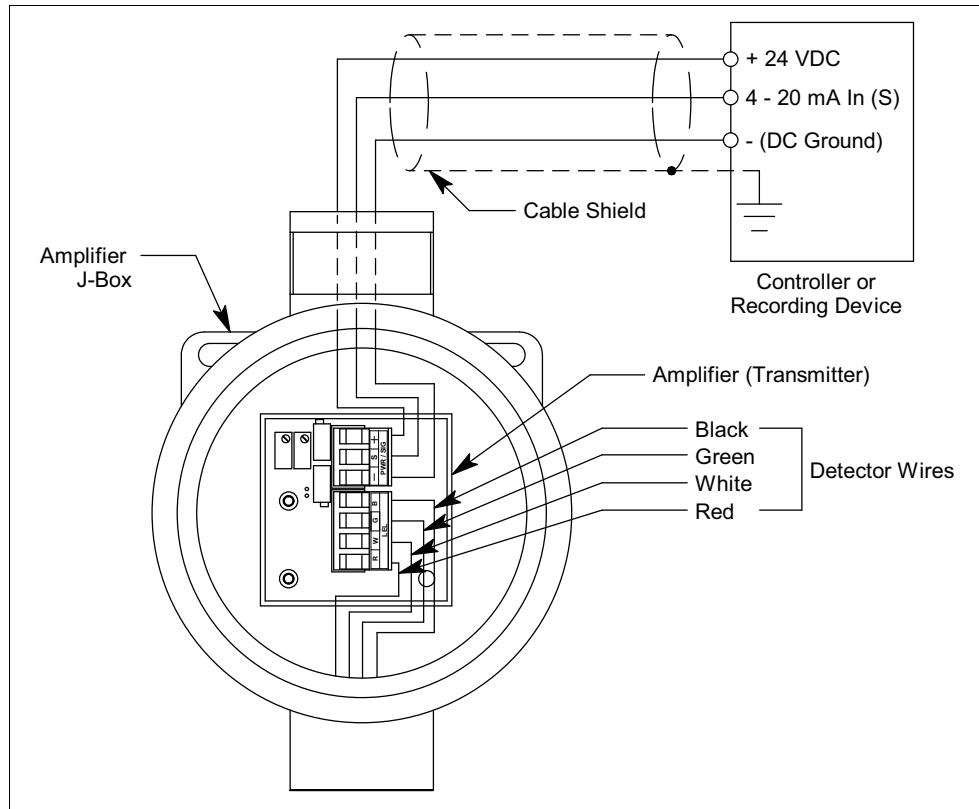

Figure 4: Wiring the Amplifier to a Controller
5. Pull out the controller terminal strip, and connect the three wires to the terminal strip as follows (see Figure 4).
9. Connect the wires to the applicable detector/transmitter terminal strip at the controller as shown in Figure 4.
9. Install the detector and controller terminals strips into their sockets on the new amplifier as shown in Figure 4 on page 13 of this manual. If controller leads or detector leads were removed during this procedure, refer to Table 3 and Table 4 below.